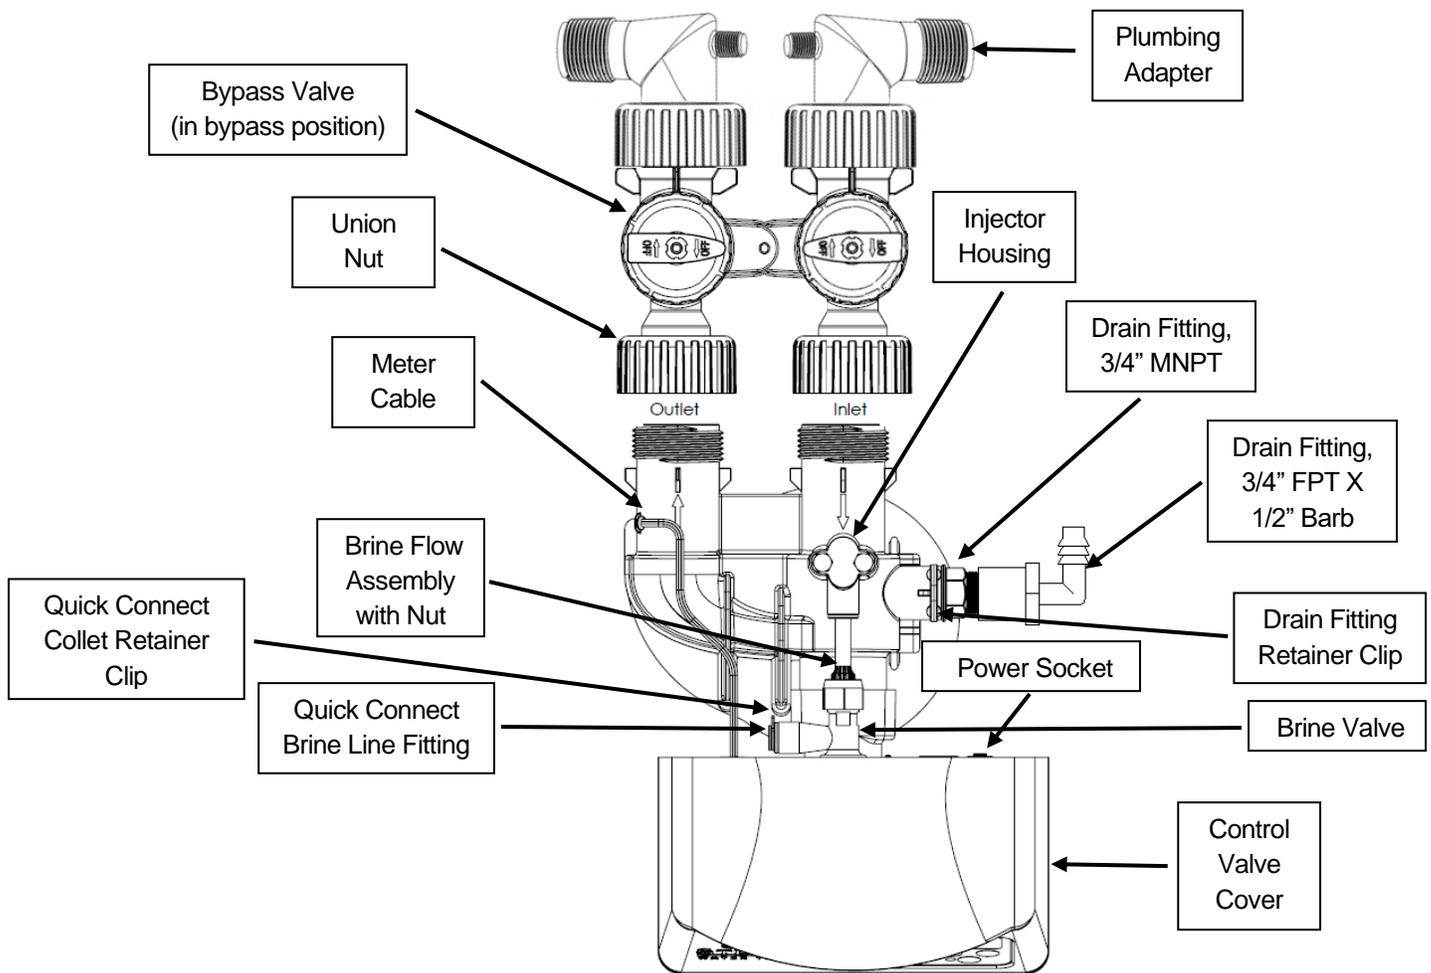
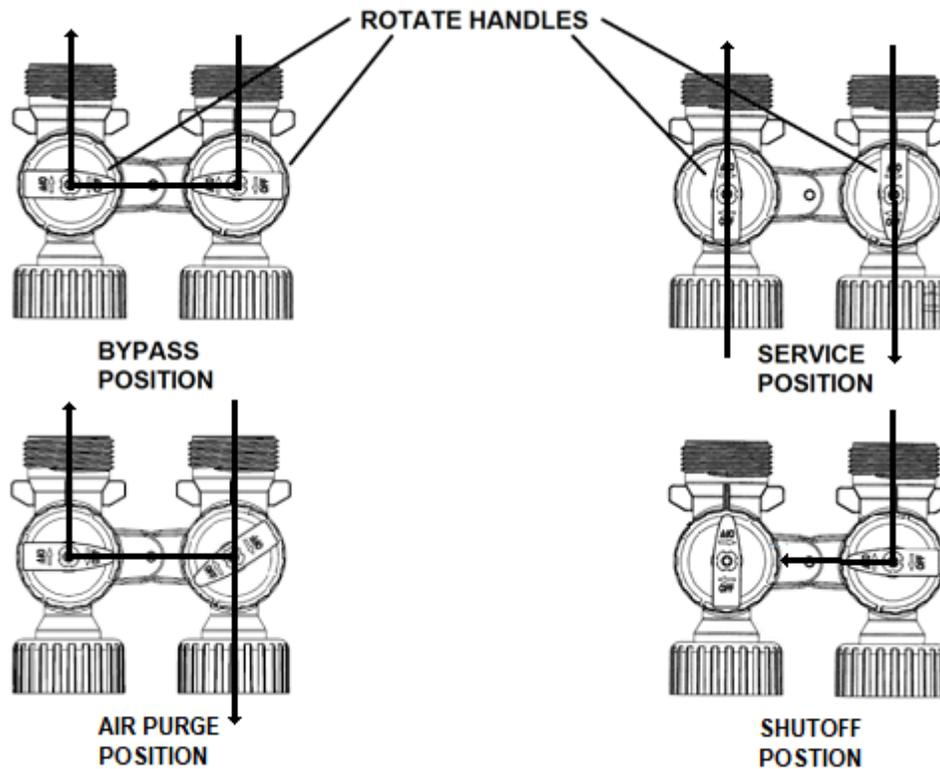

FIGURE 2: Top View of Control Valve
FIGURE 4: Bypass Valve Operation
- STEP 3:** Attach the control valve assembly to the front inlet/outlet openings of the filter and softener tanks. Ensure **FRONT** label on sump is facing forward. Attach straight pipe adapter to back inlet/outlet openings of the two tanks. Hand tighten union nuts. Do not over tighten. Attach bypass valve to the inlet / outlet of control valve and put in bypass position (Figure 2, Figure 4, Page 6).
STEP 8: Use the provided polyethylene tubing (**NO VINYL TUBING**) to run drain line from control valve barbed drain fitting (Figure 2, Page 4) to floor drain or sump pit capable of handling the backwash rate of the softener (refer to specifications and flow rate on Page 17). **THE DISCHARGE END OF THE DRAIN LINE MUST BE FIRMLY SECURED!** There must be an air gap at the end of the drain line to prevent siphoning of wastewater and meet plumbing code. Total length of drain line should be 15' or less. **AVOID OVERHEAD DRAINS.**
STEP 9: Connect one end of the 3/8" brine line to the control valve quick connect fitting (Figure 2, Page 4). Insert the other end of the brine line through the hole in the brine tank and into the quick connect fitting on the safety brine valve. Remove the quick connect collet retainer clip (if included, Figure 2, Page 4, Ref. # 30, Page 19) before inserting the brine line into each fitting, press the tube in very firmly and replace the retainer clip behind the collet. **NOTE: THE BRINE TUBING SHOULD BE INSERTED 5/8" INTO THE FITTING. DO NOT PUT SALT INTO THE BRINE TANK AT THIS TIME.**
STEP 11: Plug the transformer into an un-switched electrical outlet and insert the power cord plug into the power socket (Figure 2, Page 4) on the back of the control valve. Ensure control valve is in the "Service" position (time of day is displayed on the screen {refer to page 8 for Home Screen Display}).
- STEP 12:** Place bypass valve in the “Bypass” position (refer to Figure 4). Open main supply valve or turn on power to pump on private well systems.
- STEP 13:** Press and hold the REGEN button (4) until the motor starts. Then use the NEXT button (1) to advance the control valve to the backwash position (refer to pages 9 and 10 for details). When the backwash countdown begins, unplug power from the valve.
- STEP 14:** Refer to Figure 4 bypass valve operation. Rotate the INLET knob of the bypass valve slightly toward the Service position (just enough to hear water entering the tank) allowing the unit to fill slowly (be patient). Filling the mineral tank with the control valve in the backwash position will purge air from the mineral tank to the drain.
- STEP 16:** Plug power back into the control valve. The display will return to the time of day. Then press and hold the REGEN button (4) until the motor starts and advance the control valve to the BRINE DRAW cycle using the NEXT button (1). Verify that the water level in the brine tank is dropping. Allow water level to drop below the top of the salt grid before continuing. If the water level does not drop, refer to page 25 for Troubleshooting. After verifying water level is dropping advance control valve to the time of day using the NEXT button (1).